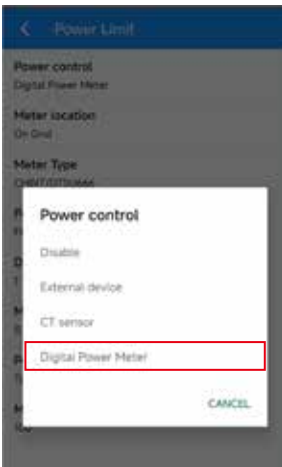

Figure 4-7 Power control
5. Set power control: Go to Console > Power Limit > Power control > Digital Power Meter. (*Figure 4-7*)
- Set power control: Go to Console > Power Limit > Power control > Digital Power Meter. (*Figure 4-7*)